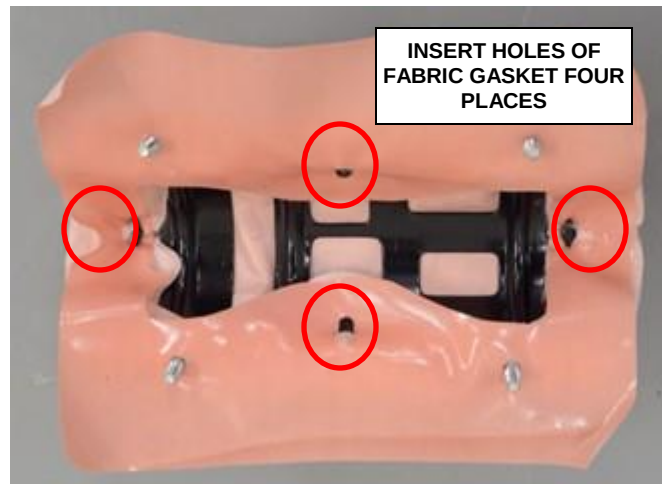

Figure 100 – Fabric Gasket
- j. With the help of a trim tool insert the holes of fabric gasket, four places (Figure 100).